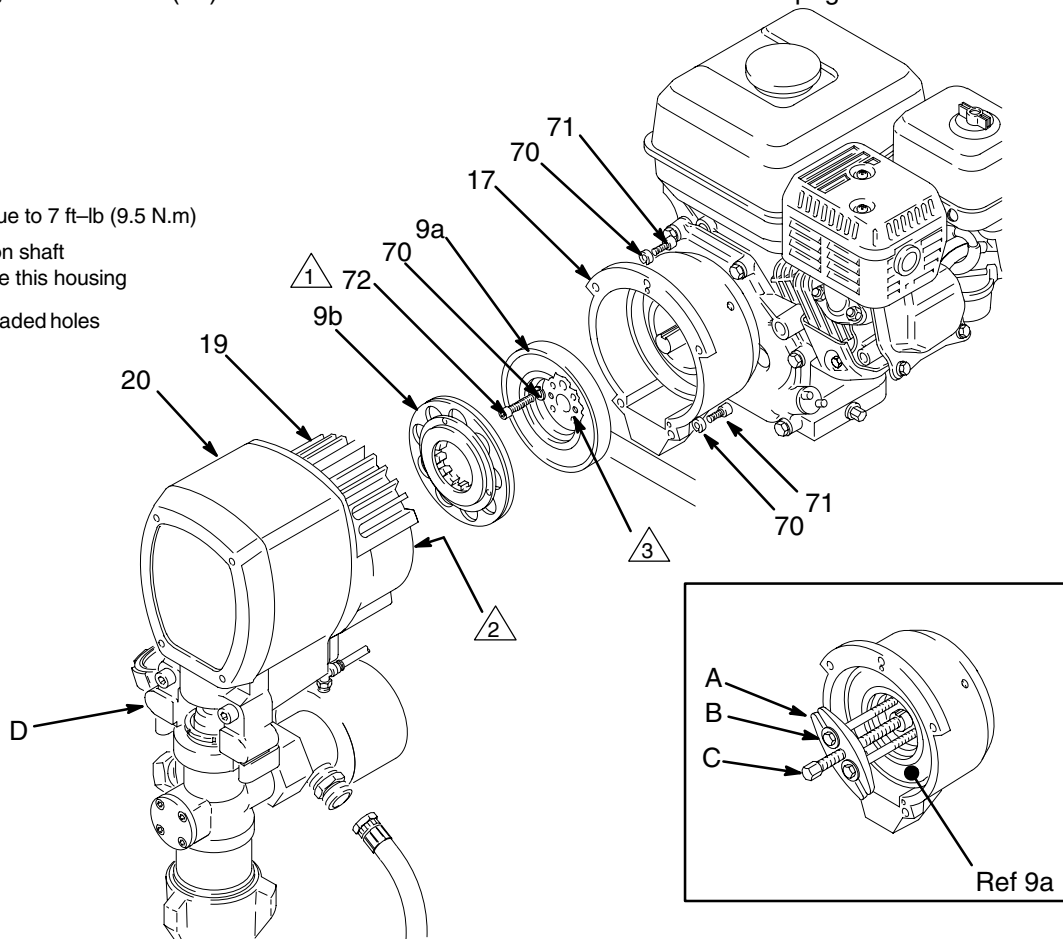

Fig. 21
**NOTE:** The clutch assembly (9) includes the armature (9b) and rotor (9a). The armature and rotor must be replaced together so they wear evenly.
**NOTE:** If the pinion assembly (19) is not yet separated from the clutch housing, follow Steps 1 to 4. Otherwise, start at Step 5.
2. Disconnect the hose from the displacement pump. Disconnect the cord set (62) from the pressure control.
3. Remove the bottom two screws (3) from the clutch housing (17) and then remove the remaining three screws (3).
4. Tap lightly on the back of the bearing housing (23) with a plastic mallet to loosen the assembly (D) from the clutch housing (17). Pull the assembly away; the armature (9b) will come with it.
- a. Remove the capscrews (4) and lockwashers (2). Install two of the screws in the threaded holes in the rotor (9a). Alternately tighten the screws until the rotor comes off. See Fig. 21.
- b. Use a standard steering wheel puller (A) with two 1/4-28 x 3 or 4 in. long screws (B). Replace the short screws of the steering wheel puller with the longer screws. Turn the screws (B) into the threaded holes of the rotor (9a). Tighten the capscrew (C) of the tool until the rotor comes off. See the Detail in Fig. 21.